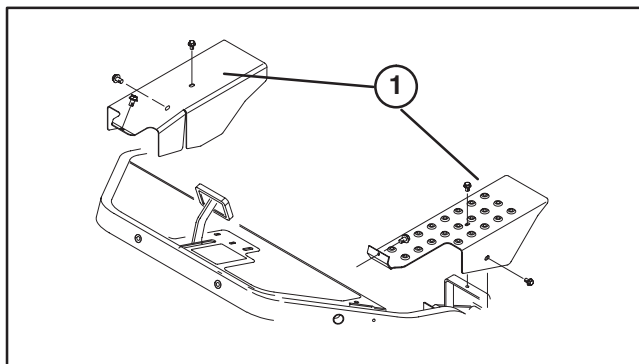

Figure 1
7. To ease installation of kit, it is recommended that right and left wheel shields (Fig. 1) be removed from traction unit assemble.
17. Re-install right and left wheel shields (Fig. 1) if removed from traction unit.